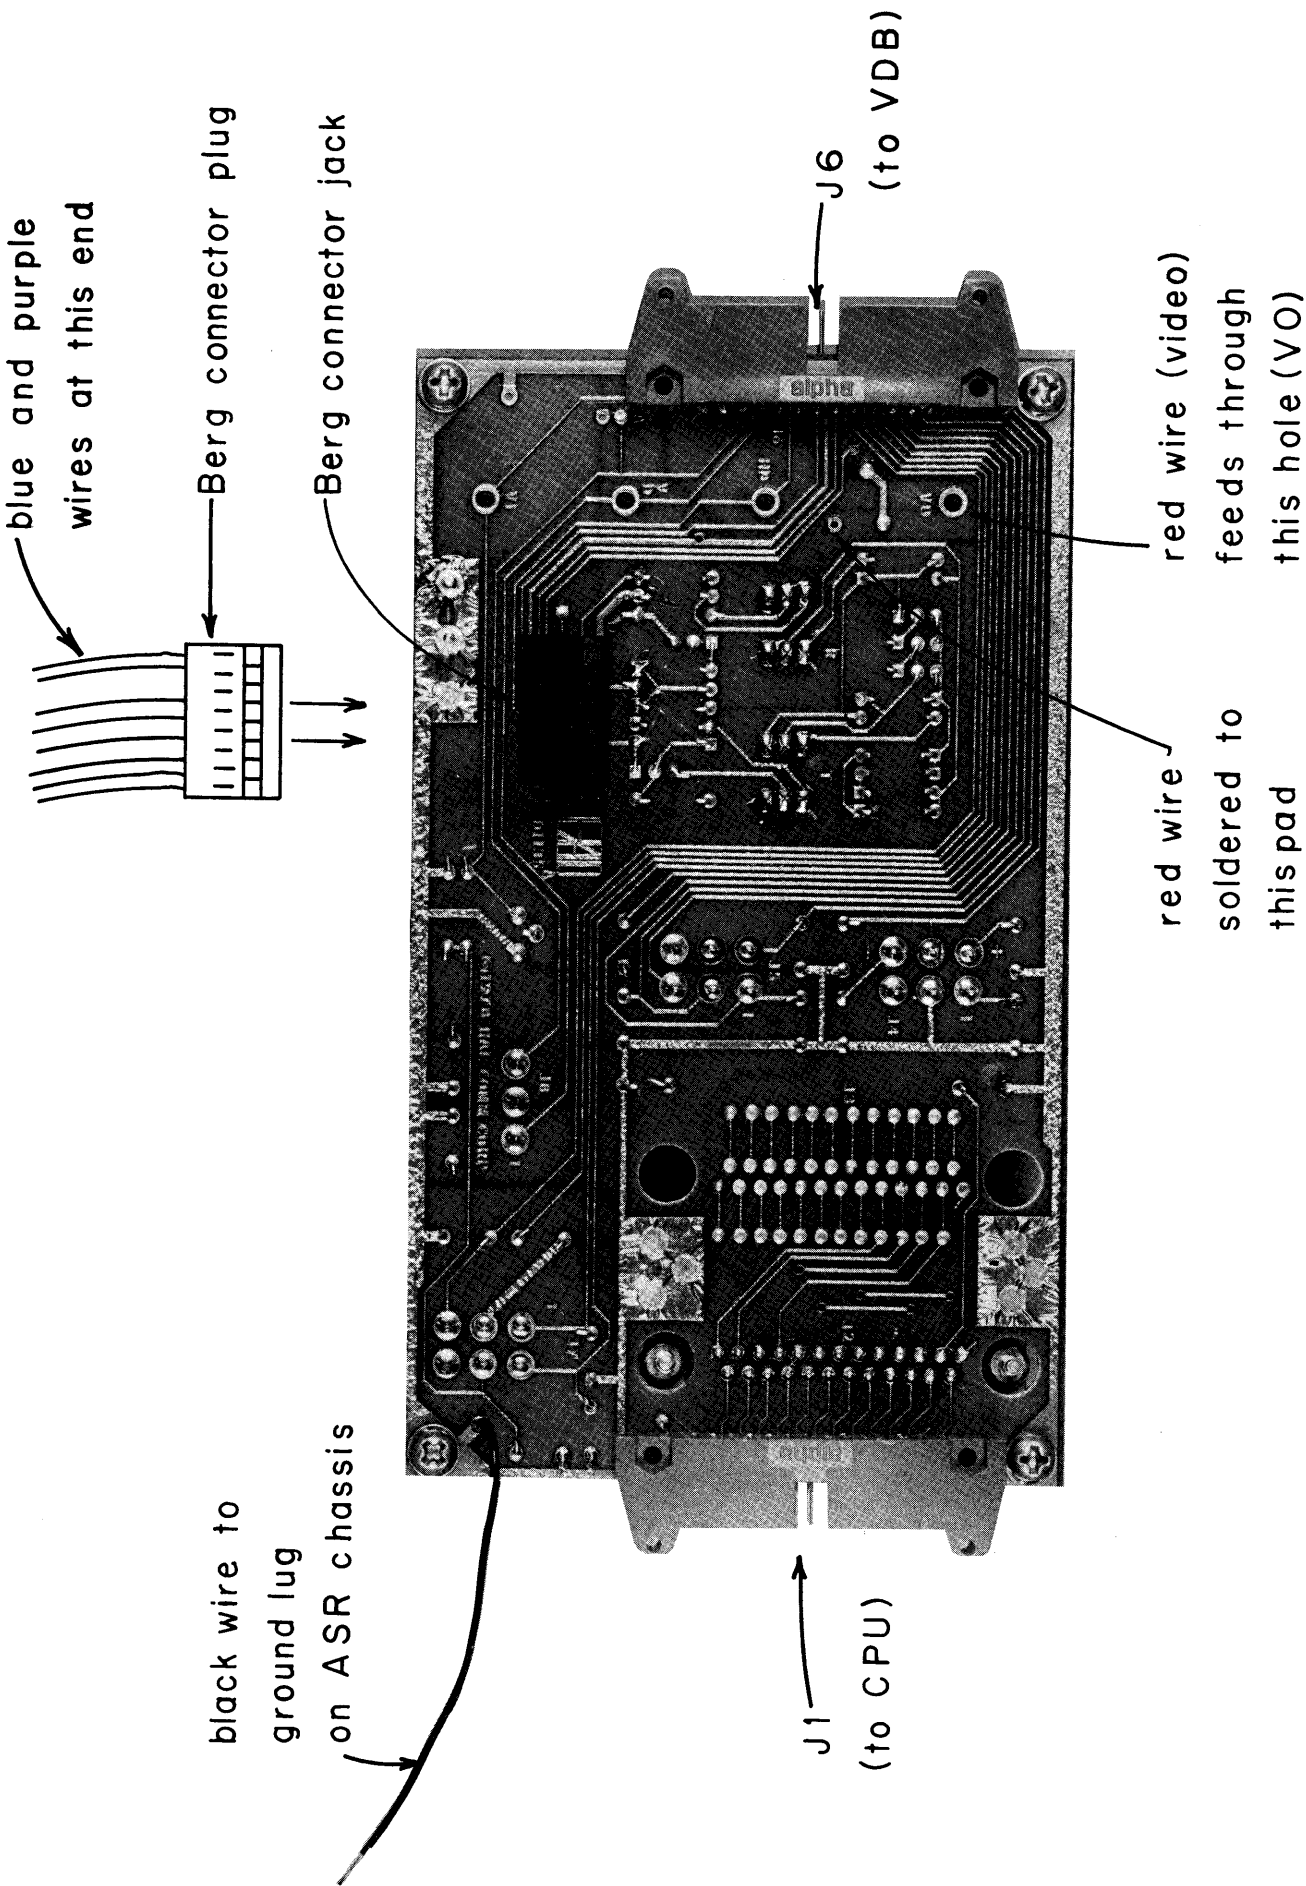

FIGURE 2.4 ASR I/O BOARD
6. When reinstalling the I/O board, feed the red video wire through the board hole marked "V0", insert the stripped end into the small pad just above that hole, and solder the connection. Also, solder the black ground wire back to the ASR chassis terminal lug it was removed from. Push the molex shells through the holes on the rear panel until they all "snap" into place, allowing the I/O board spacers to contact the rear panel. Secure with screws, and be sure to reconnect the proper ribbon cables, as indicated in Fig. 2.4. Also, be sure to plug the Berg connector into its socket on the I/O board, making sure that it is oriented properly--with the blue and purple wires at the end closest to the open side of the card cage.